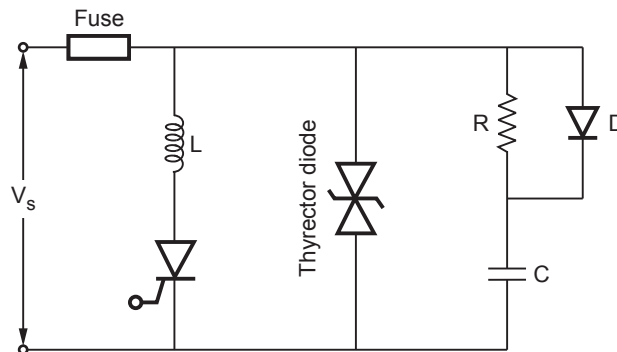

Fig. 1 Overvoltage protection using selenium diode or MOV
- Fig. 1 shows the circuit diagram of overvoltage protection using selenium diode and metal oxide varistor.